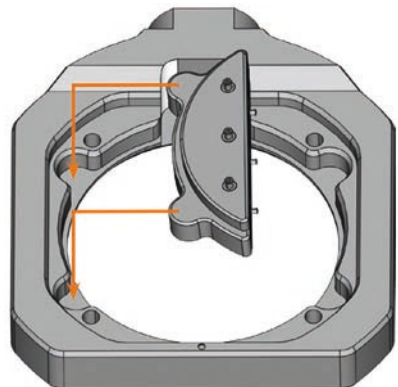

Fig. 25: Positioning the FINOCAM block holder
M3. Place the FINOCAM block holder so that the 2 positioning aids (1) lie in the *left* outer roundings of the workpiece holder (⇒ Fig. 25). Hold the FINOCAM block holder in place with one hand.